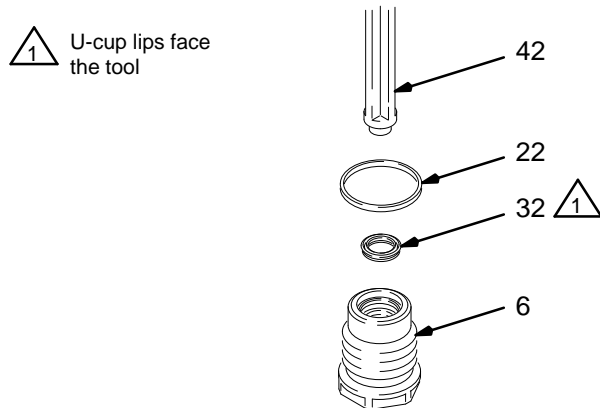

Fig. 11
- Remove the u-cup seal (32) from the fluid adjustment nut (6). See Fig. 11. Be careful not to damage the seal surface or the nut's internal threads.
- Install the new u-cup seal (32) with the seal installation tool (42); the u-cup lips must face toward the tool as shown in Fig. 11. This will help apply even pressure to the u-cup lips and avoid damaging them.
- Push the u-cup seal (32) into the fluid adjustment nut (6) until a definite snap is felt.
- Install the new packing ring (22).